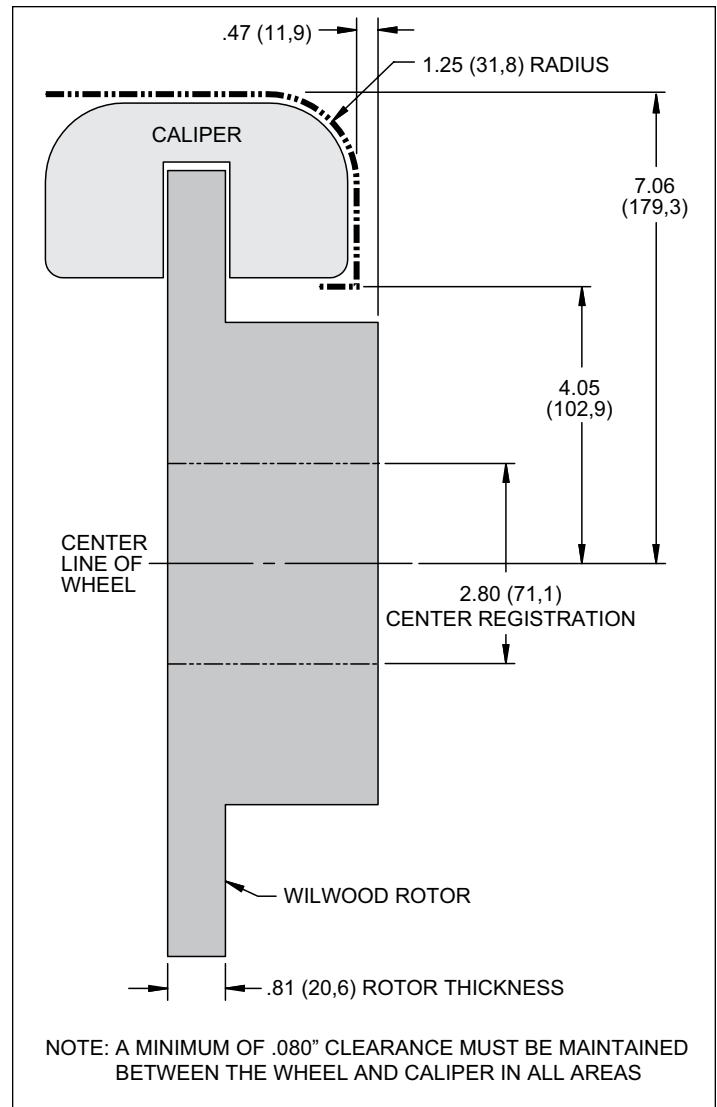

Figure 4. Wheel Clearance Diagram
- Review the wheel clearance diagram (Figure 4, page 4) to verify that there is adequate clearance with the wheels you will be using with the installation.
• Verify your wheel clearance using Figure 4.